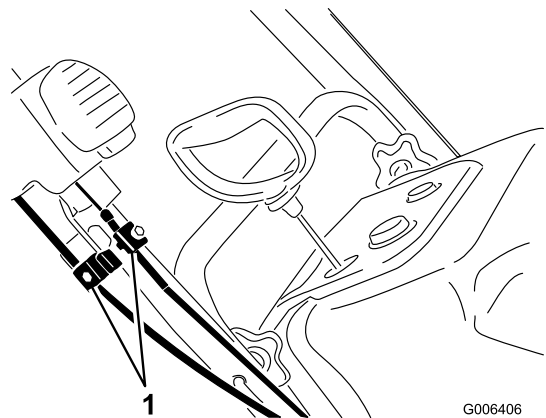

Figure 41
- Loosen the two Quick Shoot control cable clamps (Figure 41).